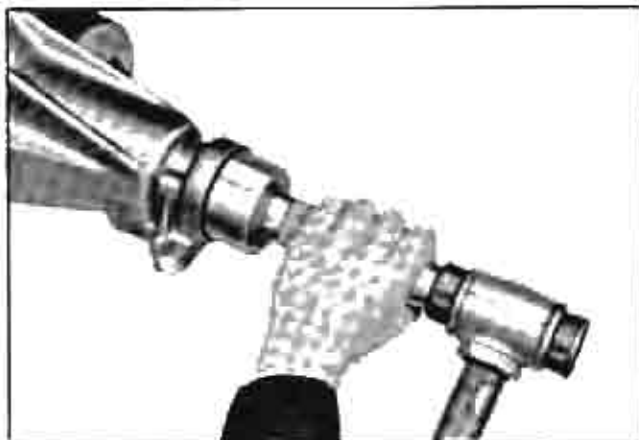

Fig. 157 Installing Rear Oil Seal
24. If rear oil seal was removed, coat outer casing of new seal with gasket sealing compound and drive seal into housing with installer J-5154-A (Fig. 157).